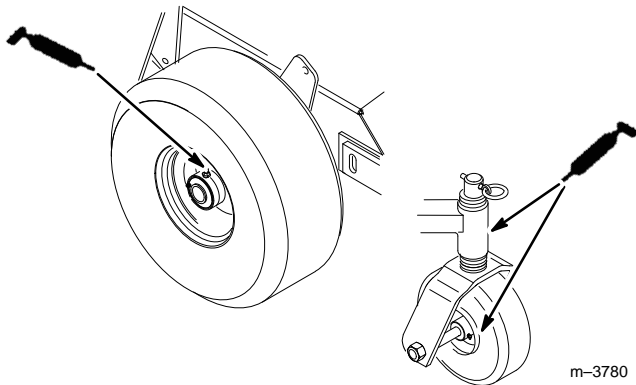

Figure 36
1. Lubricate the drive and castor wheel bearings and front spindles (Fig. 36).